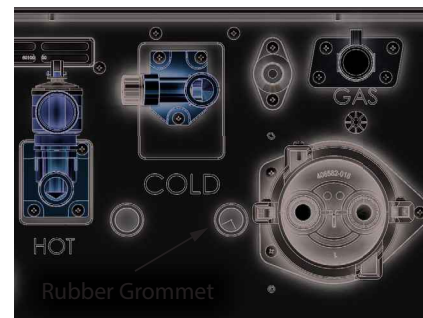

Figure 43 - Bottom of water heater - Grommet
- 6 Use Figure 43 to locate the rubber access grommet on the bottom of the water heater. Route the single harness end of the Cascade Linking Cable through the bottom and around to the circuit board.